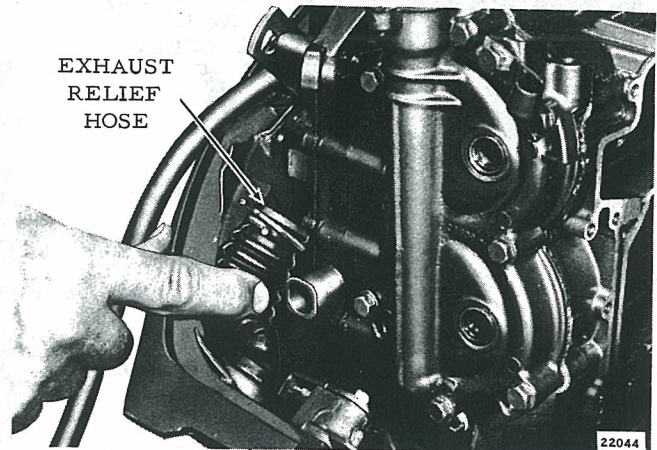

Figure 5-4. Removing Exhaust Relief Hose
- c. Remove exhaust relief hose and clamp from exhaust cover. See Figure 5-4.